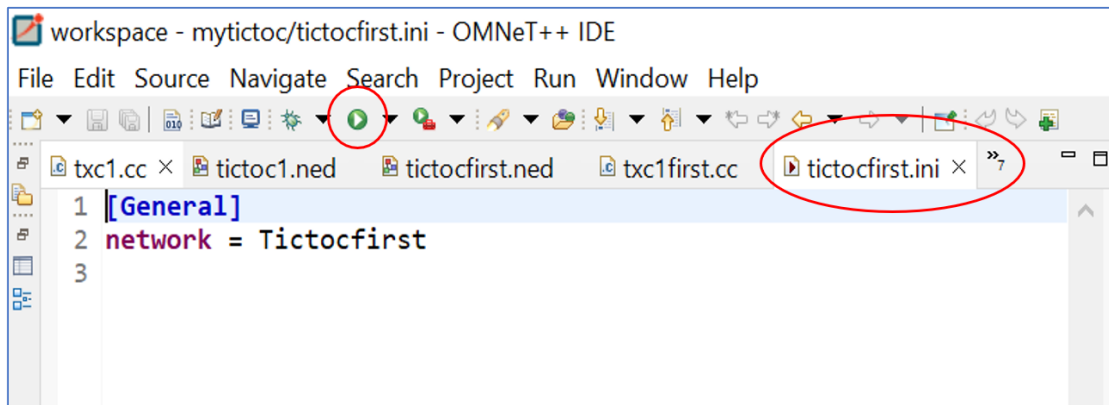

Figure 3.2: The OMNET++ IDE
- Launch the simulation by selecting `tictocfirst.ini` (in either the editor area or the *Project Explorer*) as shown in Figure 3.2, and pressing the *Run* button.